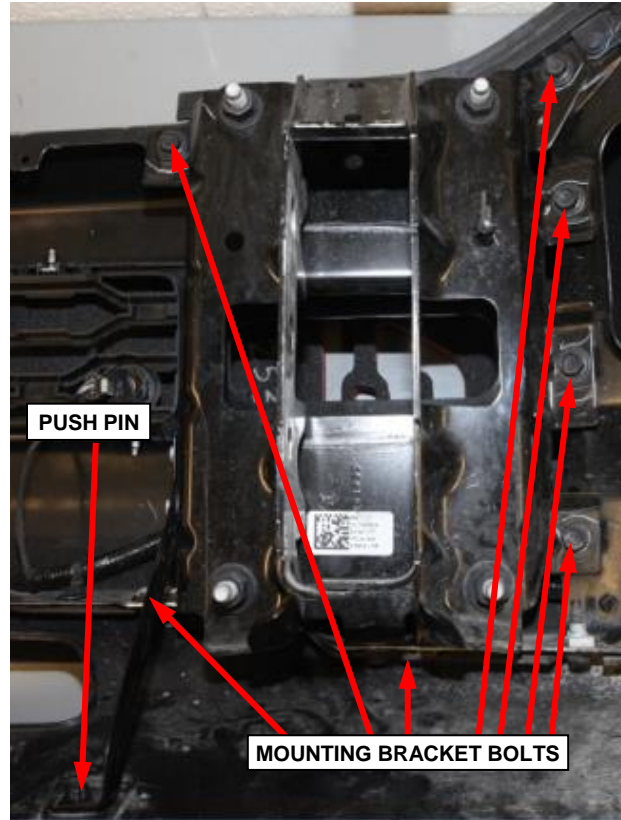

Figure 8 – Mounting Bracket with Crush Can Fasteners
11. Remove 7 bolts and one push pin retaining the mounting bracket with crush can to the bumper. Repeat for the other side (Figure 8).
21. Install mounting brackets with crush cans to the bumper. Install 7 bolts and one push pin to each bracket. Tighten the bolts to 95 N·m (70 ft. lbs.) (Figure 8).